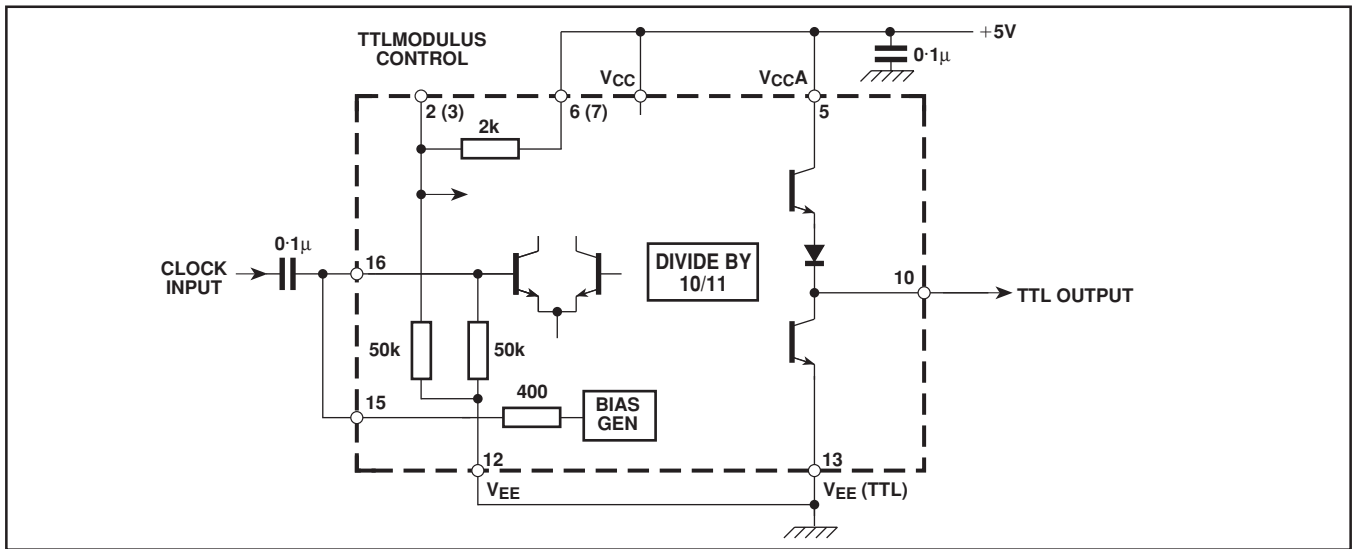

Fig. 7 Typical application showing TTL interfacing.
1. The clock input, which is ECL10K compatible throughout the temperature range, can also be coupled to TTL as shown in Fig. 8. The clock can also be capacitively coupled to the signal source (see Fig, 6). Connecting the internally-generated bias voltage to the clock input i.e., pin 15 to pin 16, centres the clock input about the switching threshold (see Fig.7).